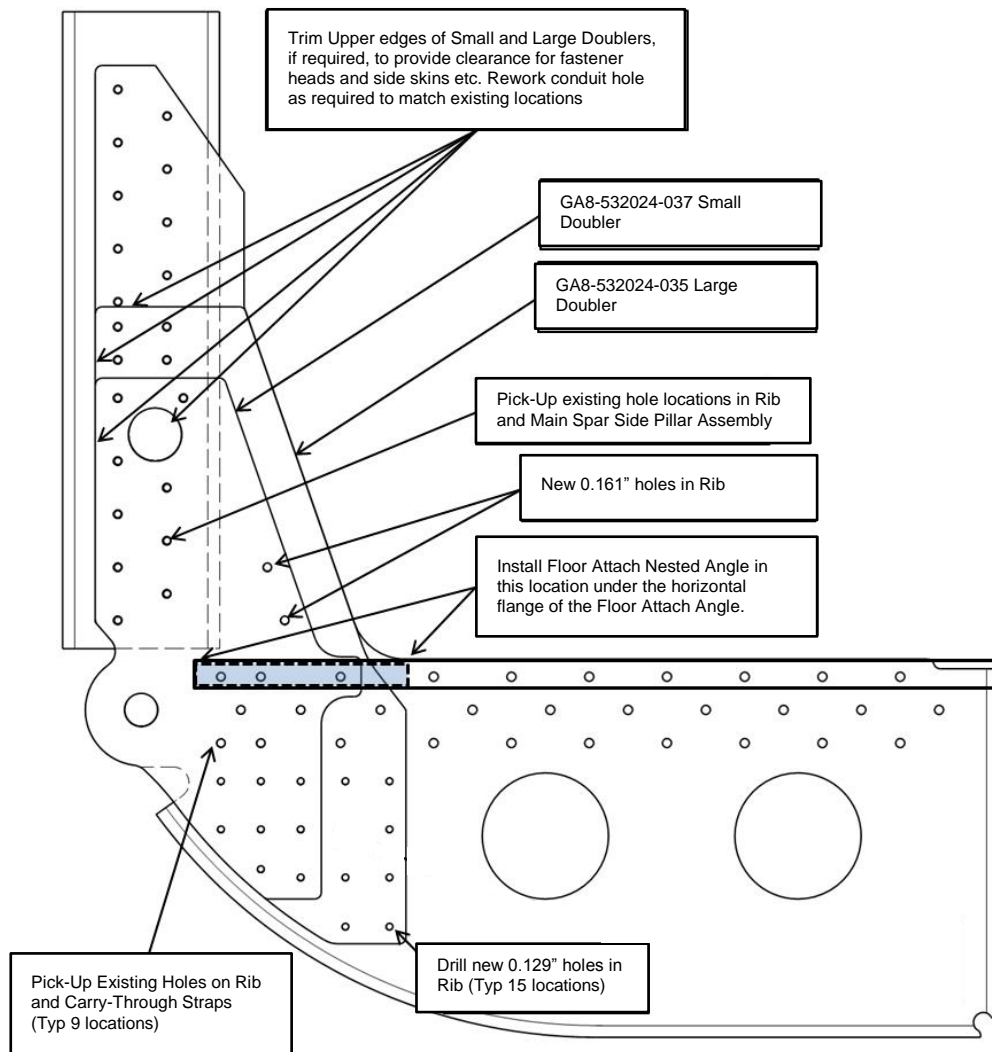

Figure 37: Typical installation of Permanent Doublers.
- 4) Position the Large Doublers on Rib #5 or #6 (See Figure 37) and temporarily install the wing strut attachment bolt to ensure the lug bore of the doublers are concentric with the Rib and Carry-Through Straps. Clamp the doubler in position.
- 7) Drill new holes using a #20 drill to a diameter of 0.161", into the Rib using the two pilot hole locations in the Large Doublers which exist above the floor skin water-line (See Figure 37).
- 8) Drill 15 new holes using a #30 drill to a diameter of 0.129", through the lower web of Ribs #5 and #6 using the pilot hole locations in the Large Doublers below the floor skin water-line (See Figure 37).
- 1) Position the Large and Small doublers on Rib #5 and #6 (See Figure 37) and temporarily install the wing strut attachment bolt to ensure the lug bore of the Doublers are concentric with the Rib and Carry-Through Straps. Pin the doublers in position.
- 2) Position the Floor Attach Nested Angle (GA8-532024-029) under the horizontal flange of the floor attach angle at each Rib location (See Figure 37).
- 3) Match drill the 5/32" holes, at 0.161" diameter, (See Figure 37) from the Rib to Carry-Through Strap attachment locations to the vertical flange of the Floor Attach Nested Angle.
- 1) Position the Small and Large Doublers on Rib #5 and #6 (See Figure 37) and temporarily attach the Wing Strut attachment bolt to ensure the lug bores of the Doublers are concentric with the Rib and Carry-Through Straps.
- 2) Verify adequate clearance is provided from adjacent structure including: the Floor Attach Angle, Cabin Side-Wall Skins (See Figure 37). Also ensure that the Large Doubler inboard vertical edge does not project beyond the Rib #5 and #6 inboard edge profile. If adequate clearance exists with Large and Small doublers in position then proceed to Step (10) otherwise continue with Steps (4) through (9) as necessary.
- 3) Trim, if required, the outboard end of Floor Attach Angle to ensure clearance from the Large and Small Doublers (See Figure 37).
- 4) Trim, if required, the upper edges of the Large and Small Doublers to ensure adequate structural clearance from the Cabin Side-Wall Skins and to avoid fouling on any rivet heads (See Figure 37).
- 5) Trim, if required, the penetration holes in the Large and Small Doublers to provide clearance for the aileron cable conduit penetration (See Figure 37).
- 11) Install three MS20470AD5 rivets through the Floor Attach Nested Angle, Rib #5 and #6, Carry-Through Straps and the Large and Small Doublers (rivet grip length to be verified on installation) (See Figure 37).
- 12) Install quantity of four MS20470AD5 rivets through the Large and Small Doublers, Rib #5 and #6 and the Carry-Through Straps (rivet grip length to be verified on installation) (See Figure 37).
- 13) Install quantity of two MS20470AD5 rivets through the Large Doubler, Rib #5 and #6 and the Carry-Through Straps (rivet grip length to be verified on installation) (See Figure 37).
- 14) Install quantity of fifteen MS20470AD4 rivets through the lower web of Rib 5 and 6 and the Large and Small Doublers (rivet grip length to be verified on installation) (See Figure 37).